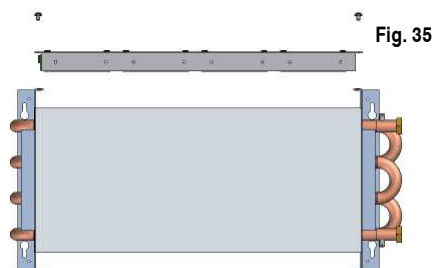

Fig. 35
1. Before mounting the core on the wall remove the four screws that support the fan HE KIT at the top (fig. 35).
2. Also remove the ambient sensor support by removing its two screws (fig. 35).